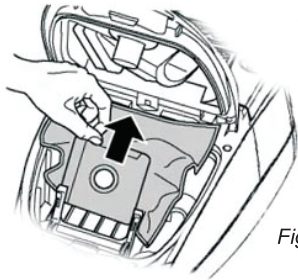

Fig. 19
3. Pull the dust filter bag up and out of the dust filter holder (Fig. 19).